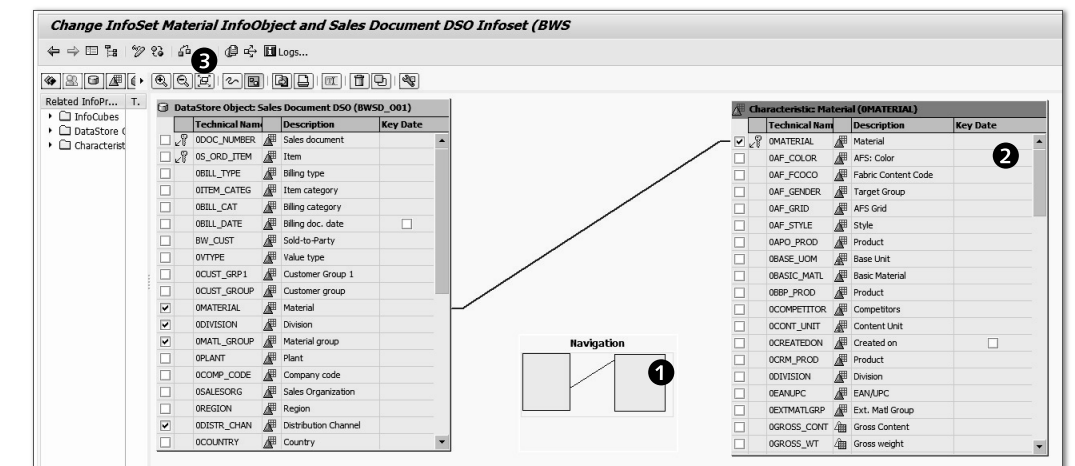
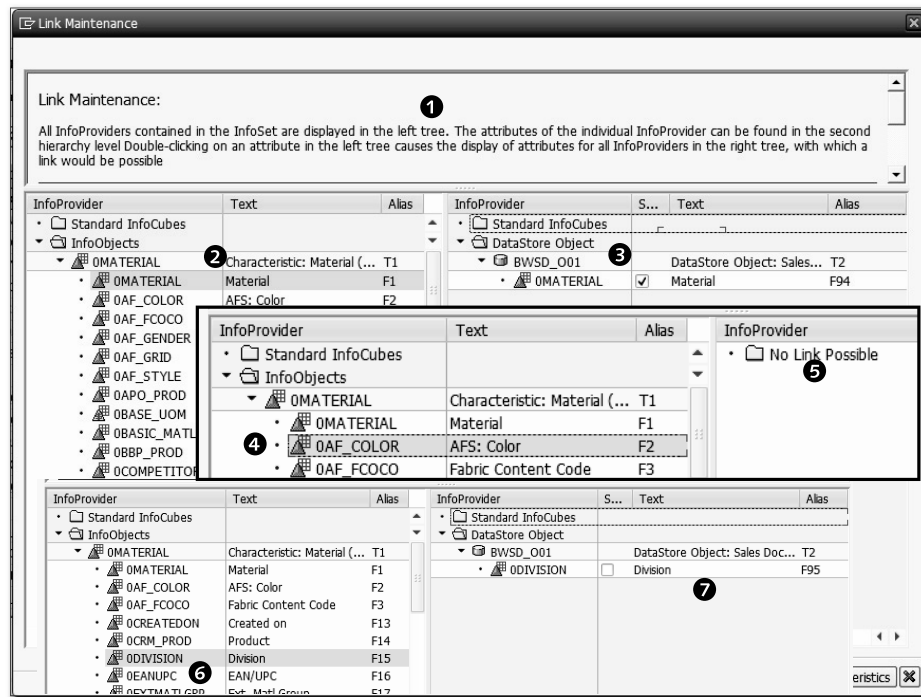

Figure 6.34 Result of Using the Navigator
Figure 6.35 Link Maintenance
Here you can drag the navigation square box 3 to the rightmost side of the NAVIGATION box. The resulting screen is shown in 1 of Figure 6.34. The content on the extreme right-hand side of the InfoSet definition screen is now visible 2.
When an InfoSet definition has two or more source objects and multiple joins, it may become difficult to move up and down or left and right to maintain the different joins involved in the definition of the InfoSet. An alternative way to maintain the join is by using link maintenance. Click on the LINK MAINTENANCE icon , as shown in ❸ of Figure 6.34. The LINK MAINTENANCE pop-up box appears (Figure 6.35).
A brief description regarding the link maintenance functionality is shown in ❶ of Figure 6.35. A list of the included InfoProviders in the definition of the InfoSet is also given ❷. The right side panel is initially empty.